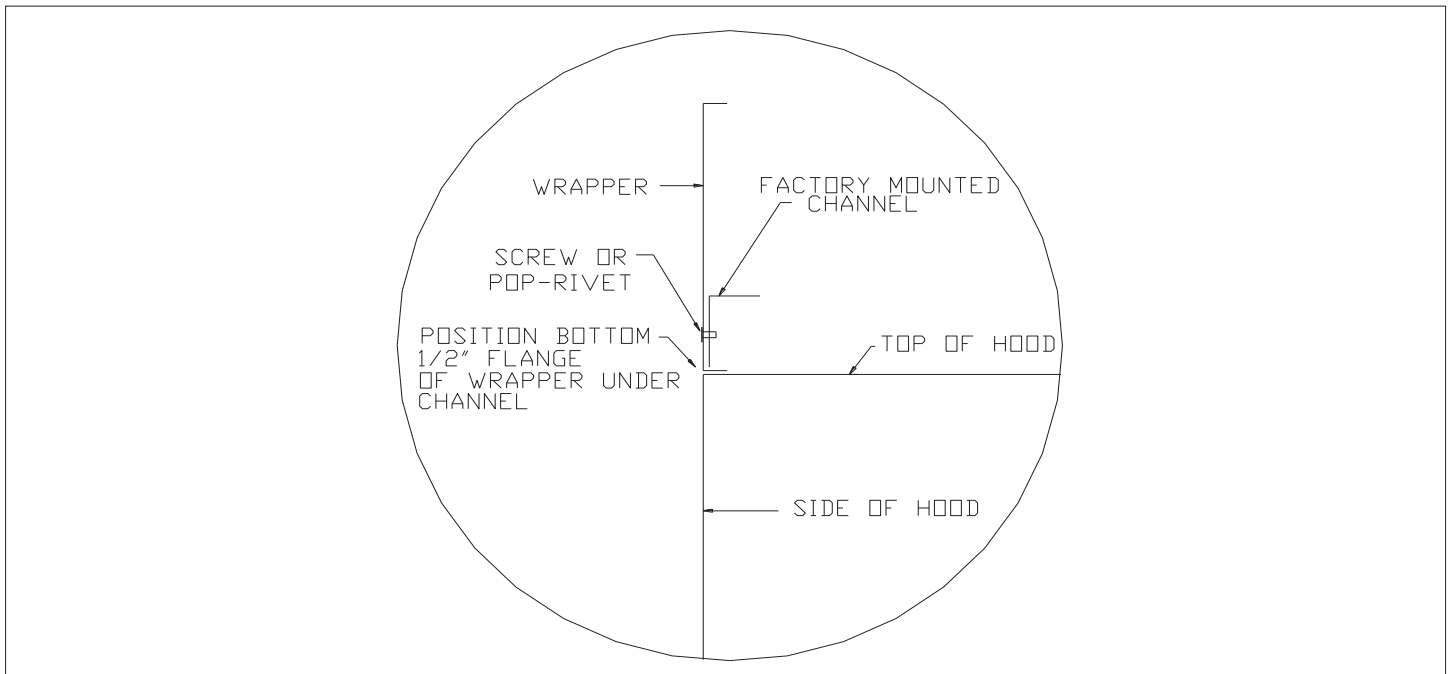
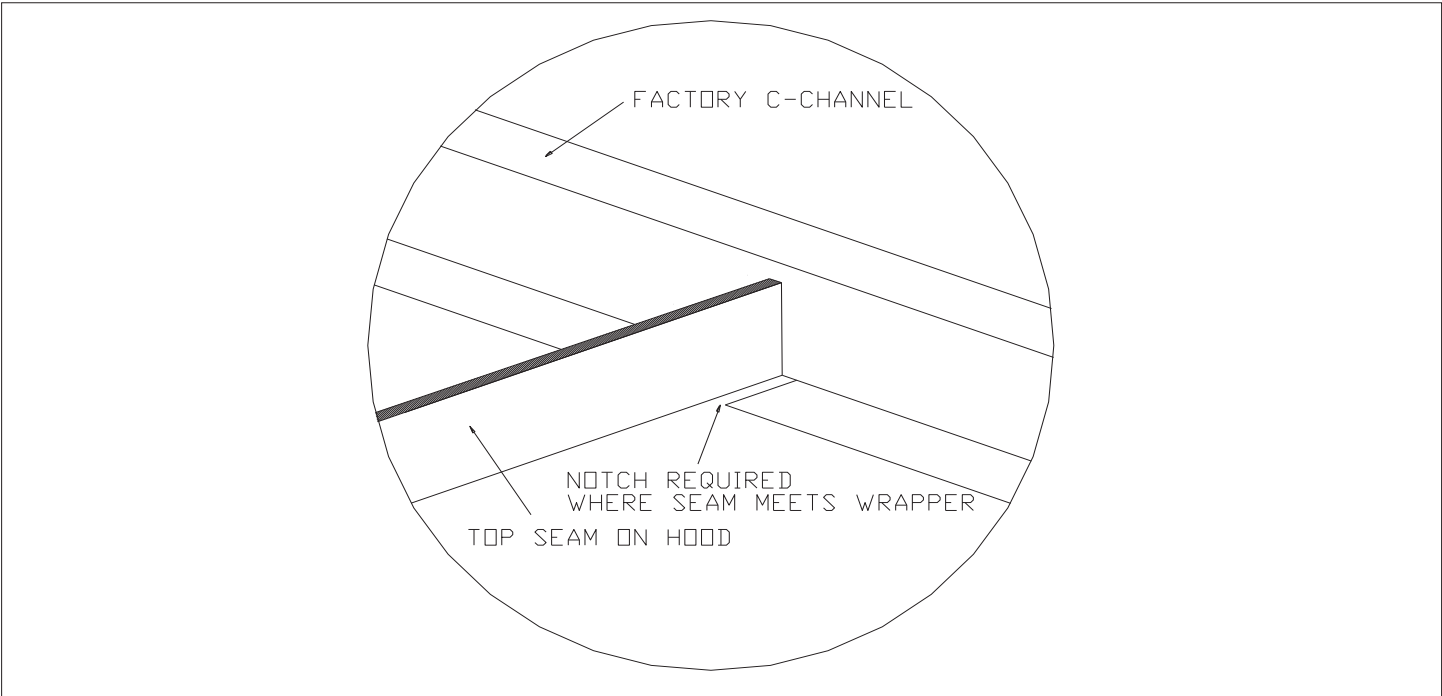

FIGURE 14A
FIGURE 14B
2. Locate one of the side wrapper panels and position it on the hood so that the 1/2" flange on the bottom of the panel slips underneath the side channel on top of the hood. **See Figure 14A: Wrapper Detail. NOTE: A notch will have to be cut on the wrapper flange using shears (tin snips) where interference occurs, where applicable. See Figure 14B: Top Hood Seam Detail.**